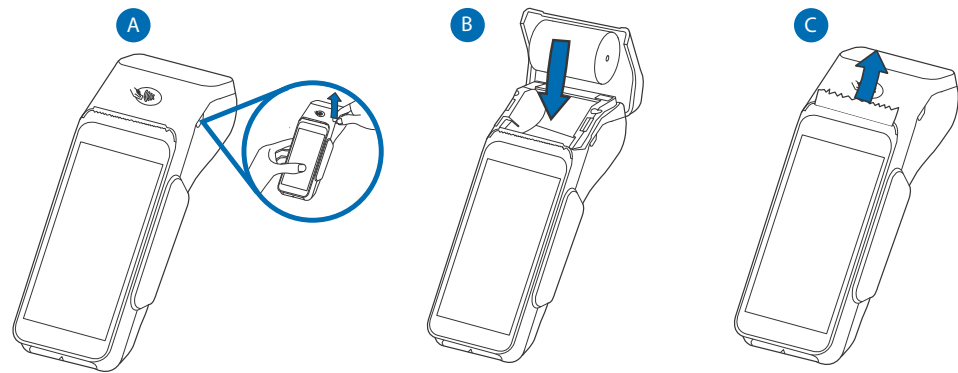

Figure 10 Steps to Install a Paper Roll in T650p
- 1 Hold both sides of the paper door, which is on the upper corner of the device and open the paper door by pulling outside (See below Figure 10).